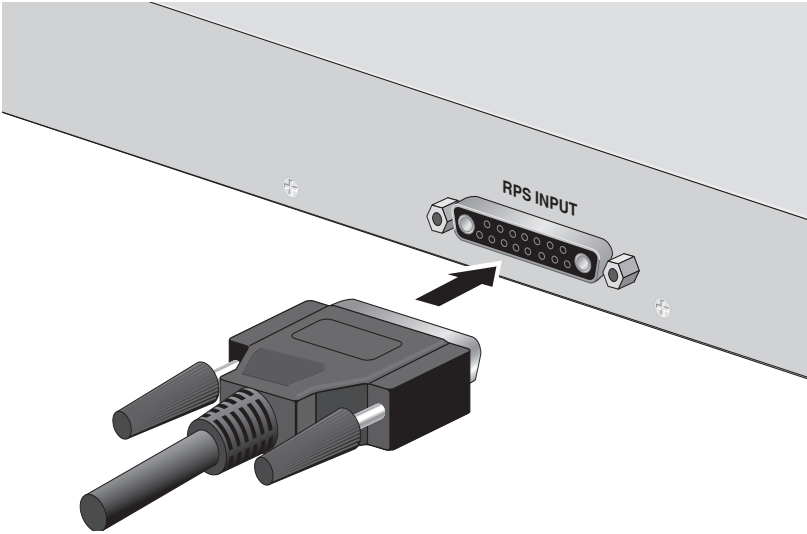

Figure 11. Connecting the RPS Cable to the Switch
5. Plug one end of a 17-pin D-combo connector RPS cable into the connector labeled “RPS INPUT” on the rear panel of the AT-8524POE switch (see Figure 11).